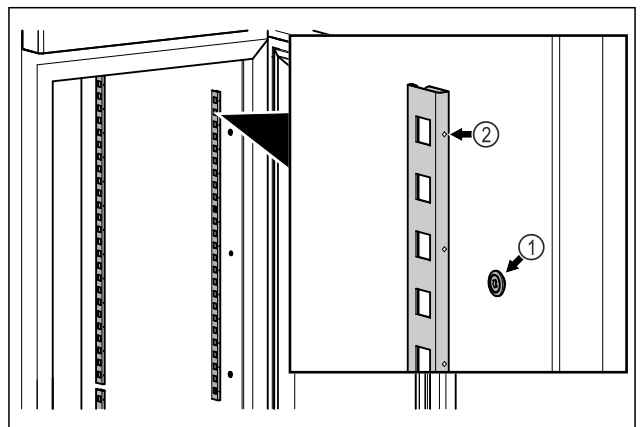

Fig. 79 Example illustration
- ▶ Hook the snap strips into the suspension Fig. 79 (1). Mark Fig. 79 (2) must point forwards.